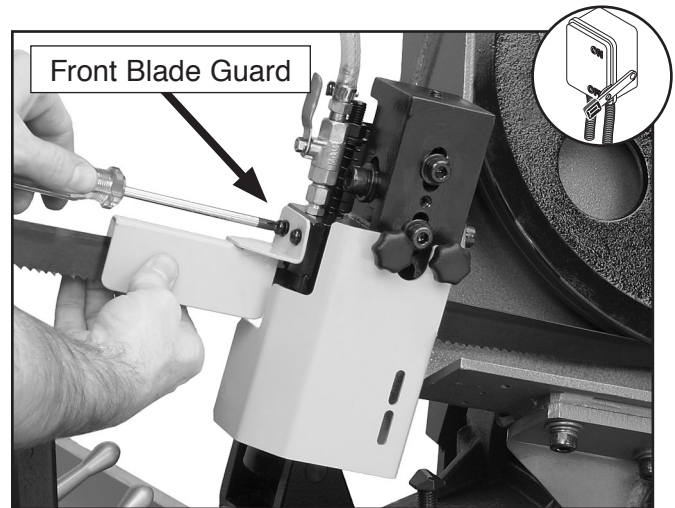

Figure 42. Removing front blade guard.
4. Remove the blade guard and wire wheel from the front of the bandsaw as shown in **Figure 42**.